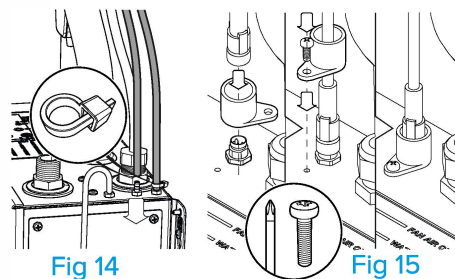

Fig 14
4. Attach 2x soap hoses to the "soap and air outlets" on the module. Use 2x cable ties to secure soap tube onto outlet spigots (figure 14).